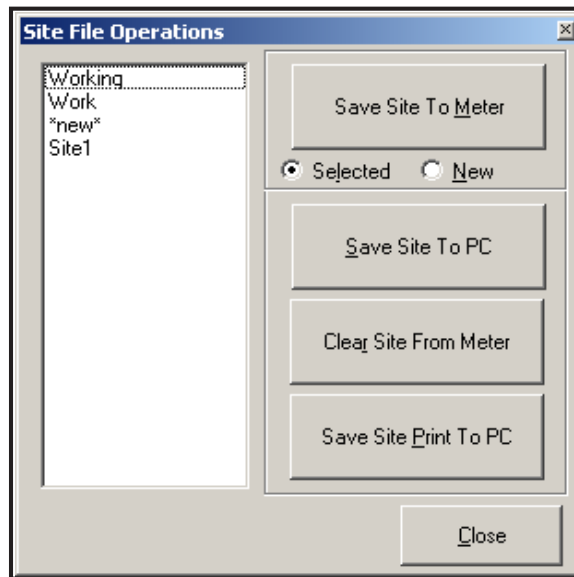

Figure 30: The *Site File Operations* Window
To access site files, click on the *Site Files* button in the *Properties* window. The *Site File Operations* window (shown in Figure 30) opens.
1. Highlight the desired site in the left pane. (See Figure 30 on page 106.)
1. Highlight the site in the left pane. (See Figure 30 on page 106.)